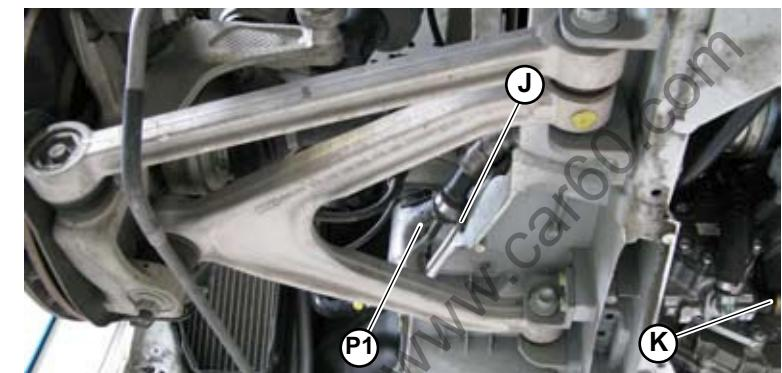

Fig.30
9. Loosen the screw (J-Fig.30) fastening the fixing clamp of the **P1** delivery pipe rear part to the chassis. Then disconnect the connection to the power steering circuit pump (K-Fig.30).